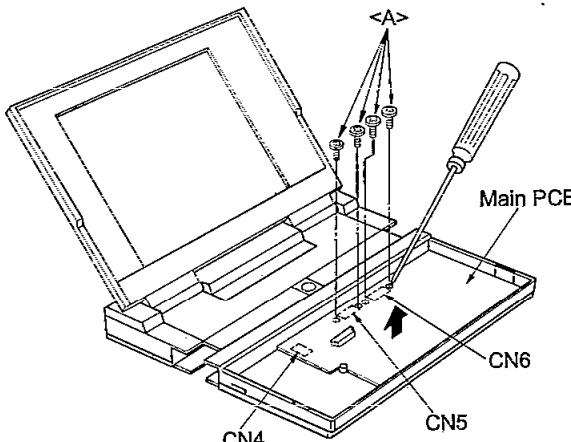

Figure 16A
- (1) After removing the keyboard, remove four screws <A> ( $\varnothing 2 \times 8$  mm).
- (2) Detach the Main PCB taking care of the connectors (CN4, CN5, and CN6) as shown in Figures 16A and 16B.